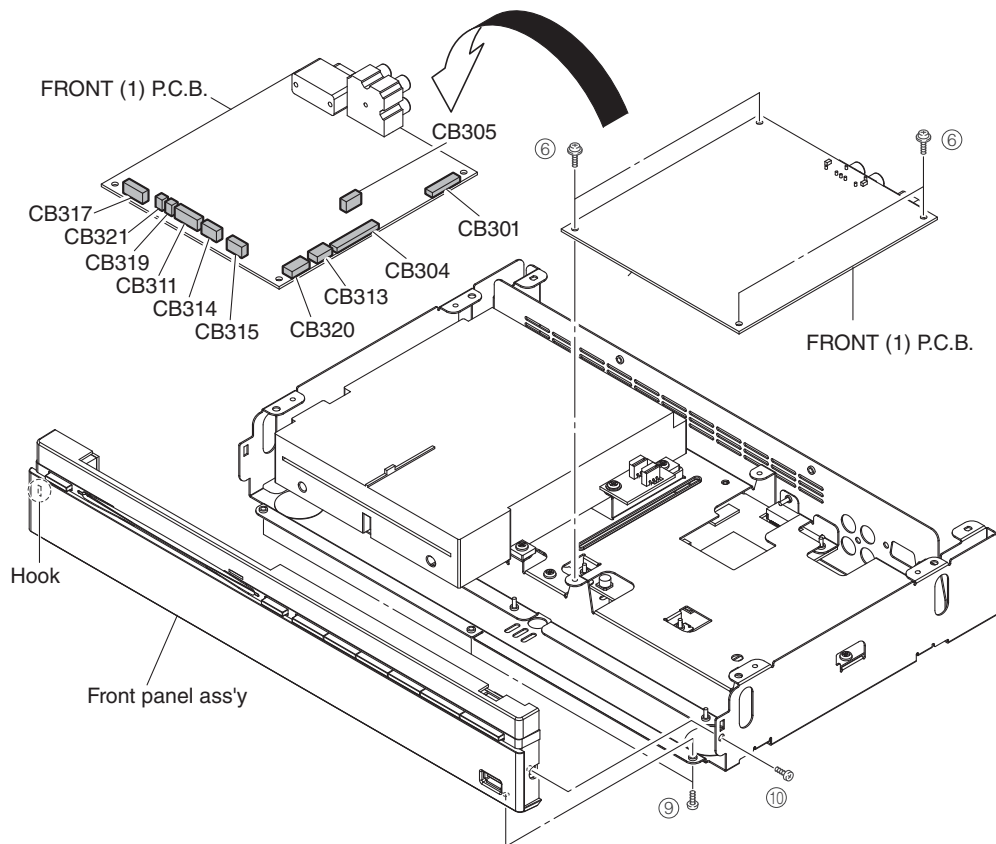

Fig. 3
- Turn over the FRONT (1) P.C.B.. (Fig. 3)
- Remove CB301, CB304-305, CB311, CB313-315, CB317, CB319 and CB320-321. (Fig. 3)
- Remove the FRONT (1) P.C.B.. (Fig. 3)
- Remove 3 screws (⑨) and screw (⑩). (Fig. 3)
- Release a hook. Remove the front panel ass'y. (Fig. 3)